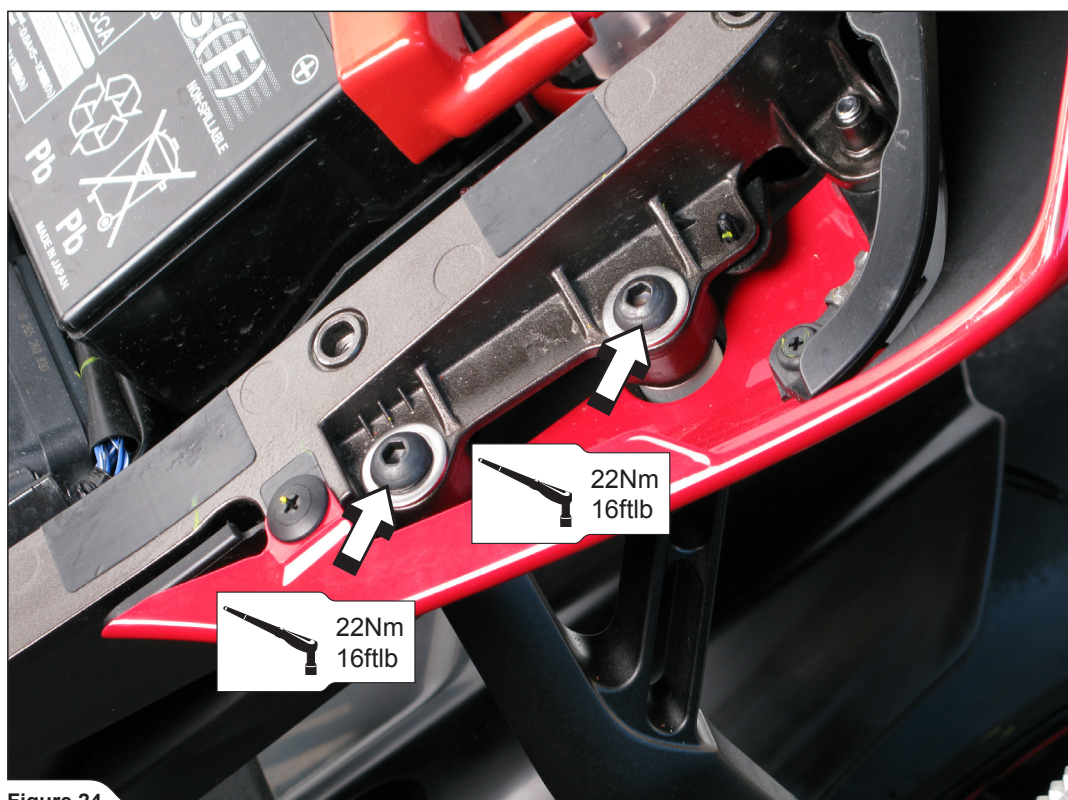

Figure 24
4. **With passenger footrest:** tighten passenger footrest brackets to the specified torque, on both sides of the motorcycle (Figure 24).